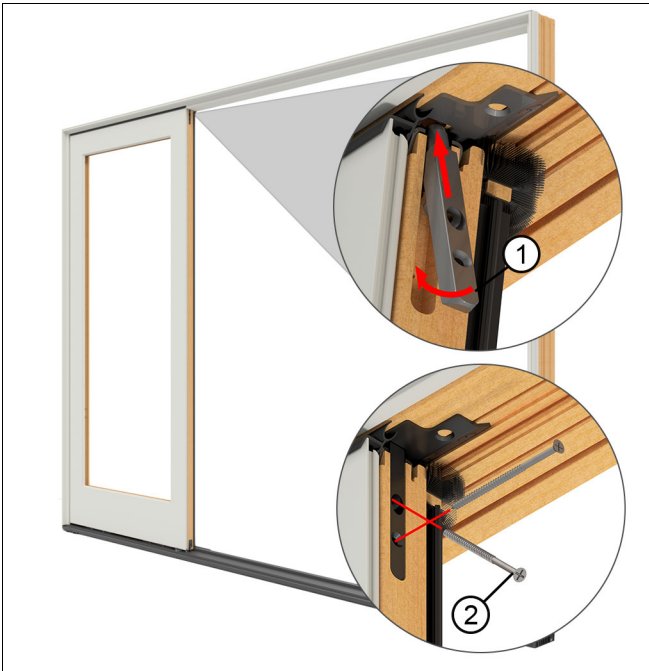

Figure 28
7. Install the end of the stationary bolt into the head jamb plate. Slide the bolt into place and fasten to the stationary panel with the two #8 x 3" screws. Note that the top screw is installed at an angle. You will need to push up on the head jamb to allow the stationary bolt to engage in the plate. See Figure 28.